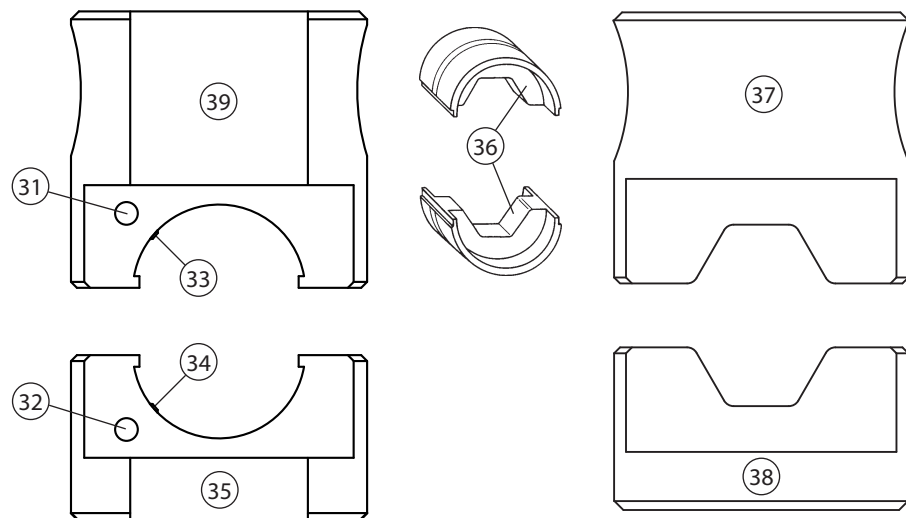

FIG. 1 DIES - MATRICES - PRESSEINSÄTZE - MATRICES - MATRICI
2.2) Die insertion (Ref. to Fig. 1 and 2)